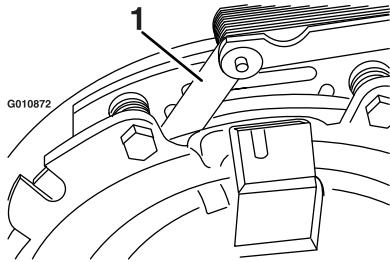
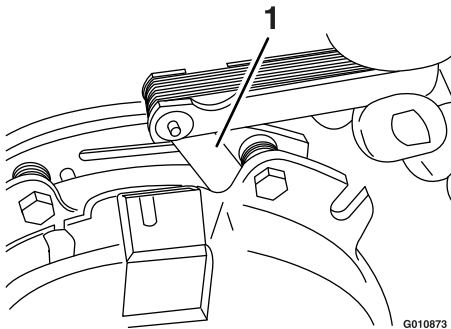

Figure 69
Figure 70
- E. Using a 0.010 inch thick-feeler gauge, verify that a gap is present between the rotor and armature face on both sides of the brake pole as shown in Figure 69 and Figure 70.